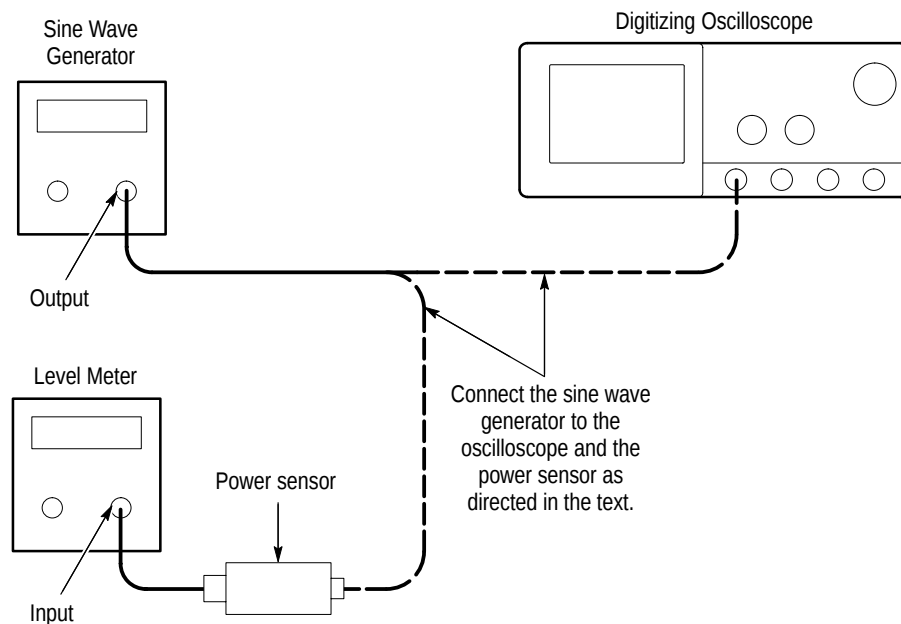

**Figure 4-41: Sine wave generator leveling equipment setup**
1. *Install the test hookup:* Connect the equipment as shown in Figure 4-41.